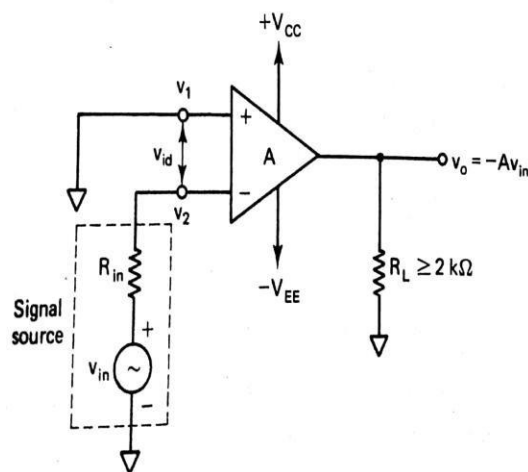

Figure 3-10 Inverting amplifier.
- The circuit diagram for the open loop inverting amplifier is shown in figure 3-10.